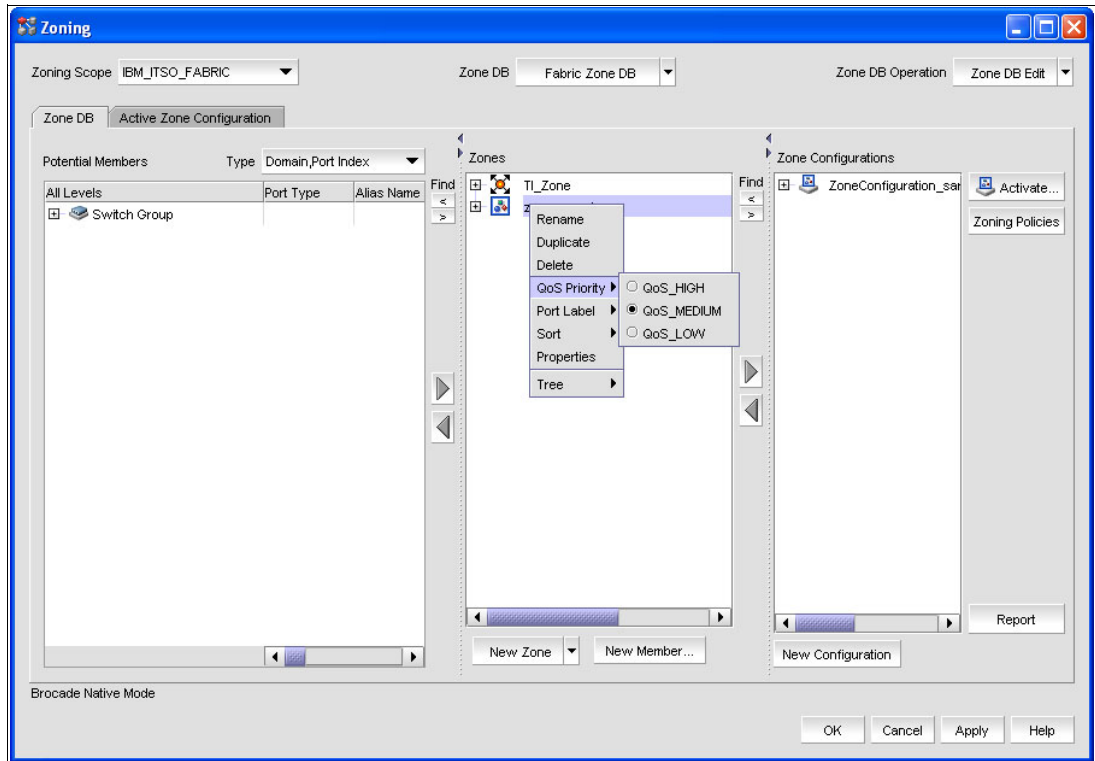

Figure 8-61 QoS priority selection for WWN Zoning
2. Right-click the created zone, and select **QoS Priority** → **QoS\_High** or **QoS\_Low** as shown in Figure 8-61 on page 303. The default is **QoS\_Medium**, for all zones.